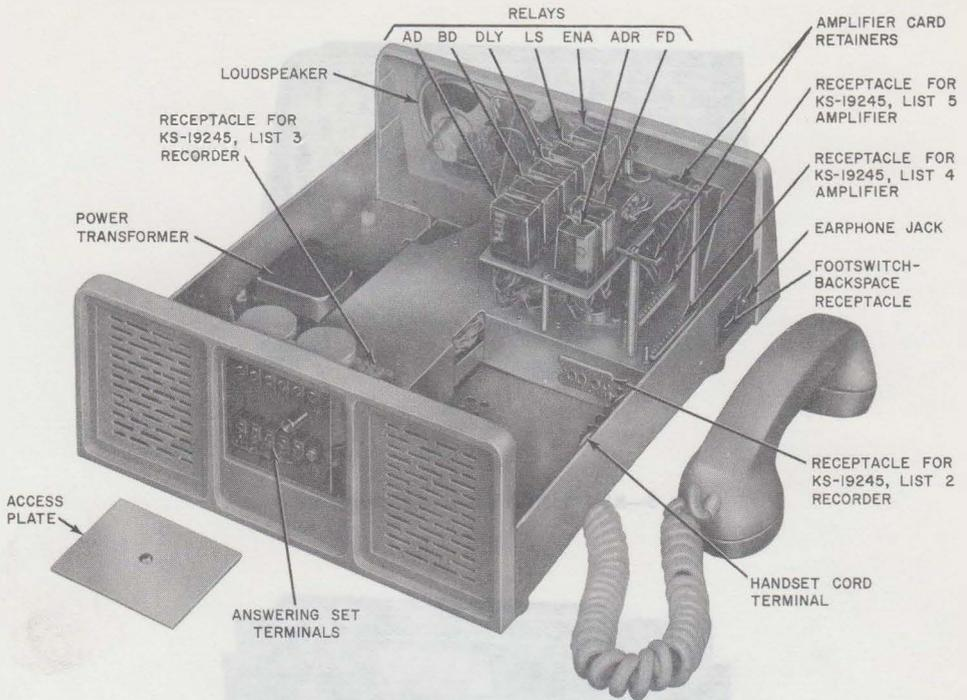

Fig. 4—KS-19245, List 1 Telephone Answering Set (Cover and Plug-In Components Removed)
- (3) Plug new recorder into the plug-in receptacle (Fig. 4).
- (4) Replace and tighten the three retaining screws.
- (5) Replace outer cover and tighten four retaining screws.
- (5) Plug new recorder into the plug-in receptacle (Fig. 4).
- (6) Replace and tighten the three retaining screws.
- (7) Replace side cover.
- (8) Replace top cover.
- (9) Replace List 6 cartridge as described in 5.02.
- (1) Remove top cover of answering set, 2.01.
- (2) Loosen retaining screws of the circuit board retainers.
- (3) Remove amplifier from its plug-in receptacle.
- (4) Plug new amplifier into plug-in receptacle (Fig. 4) and tighten screw of circuit board retainers.
- (5) Replace top cover.
2.04 Replacement of AD, BD, DLY, ENA, ED, LS, or ADR relays (Fig. 4):
- (4) Plug new relay into the plug-in socket (Fig. 4).
- (5) Engage wire spring retainer.
- (1) Remove top cover (2.01).
- (2) Remove KS-19245, List 3 recorder, (2.02).
- (3) Unsolder speaker leads.
- (4) Remove four nuts and withdraw speaker (Fig. 4).
- (5) Install new speaker and tighten nuts.
- (6) Solder speaker leads.
- (7) Replace List 3 recorder.